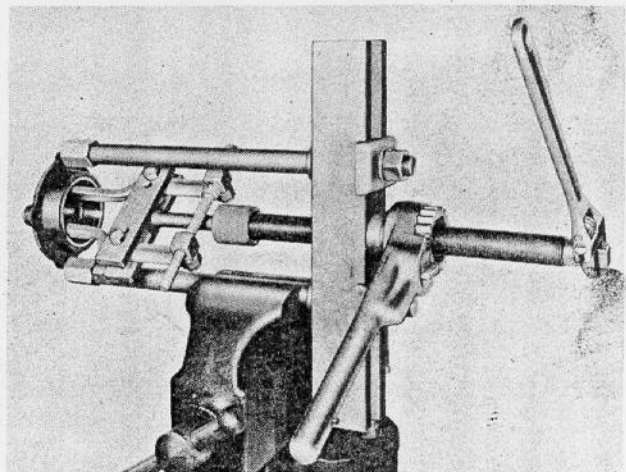

Fig. 13
- a. Remove the race as shown in Figure 13.